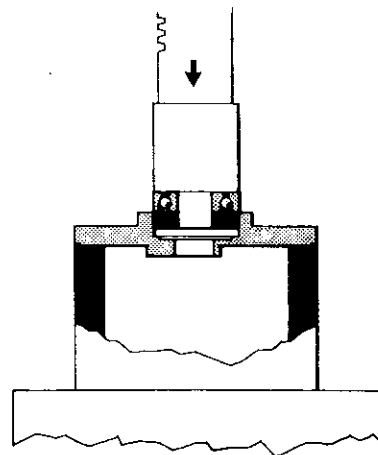

Figure No. 4.2 - Pressing Bearing into Front Endplate
5. Press the rotor shaft bearings (26) and bearing spacer (41) into the front motor endplates (27), as shown in Figure No. 4.2.